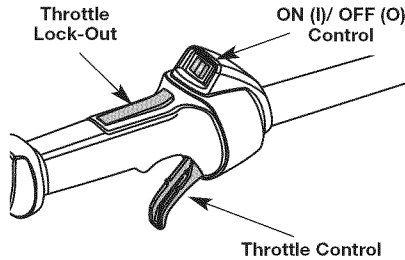

Fig. 6
NOTE: There is no need to turn the unit on. The On/Off Control is in the **ON (I)** position at all times (Fig. 6).
2. Press and hold the On/Off Control switch in the **OFF (O)** position until the unit comes to a complete stop (Fig. 6).